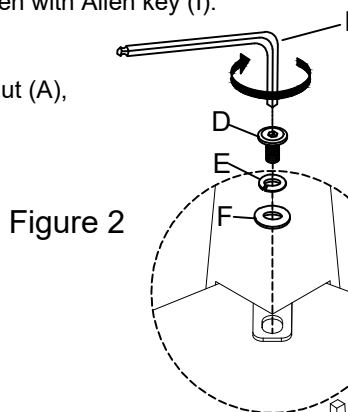

Figure 2
2. Put shelf panel above brackets using Bolt (D), Lock Washers (E) and Flat Washers (F). Tighten with Allen key (I). (See Figure 2).